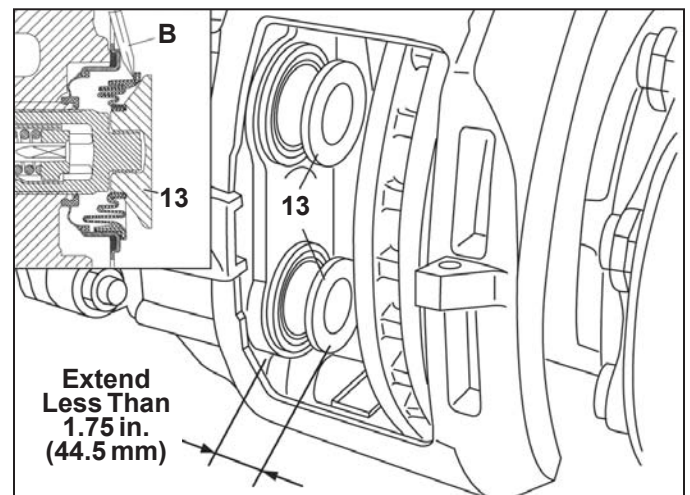
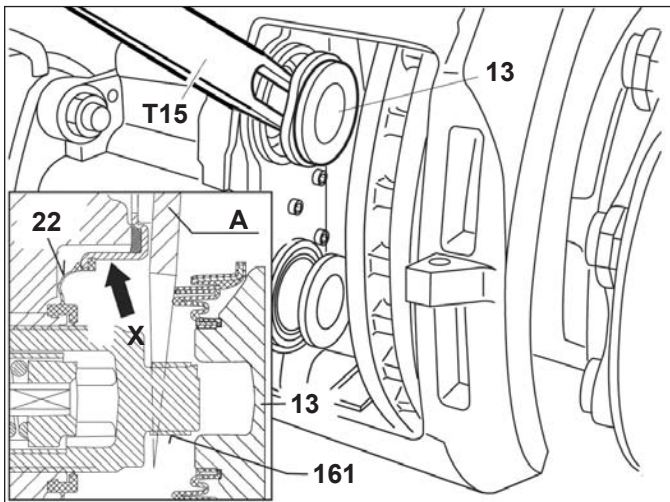
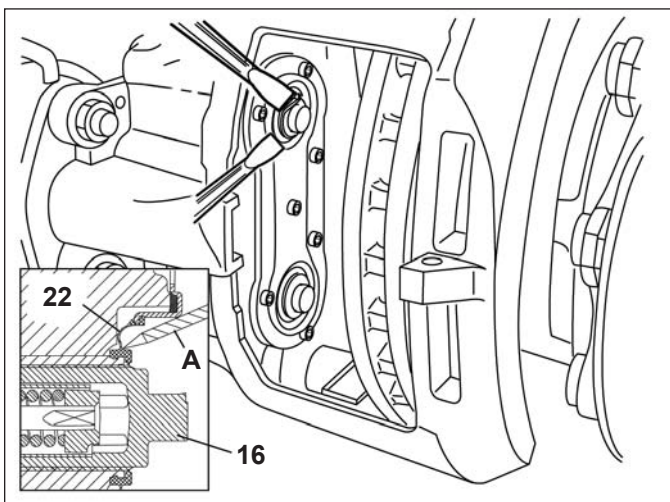

FIGURE 47 - PERMITTED TAPPET EXTENSION
FIGURE 48 - WEDGE TOOL USE
FIGURE 49 - INNER SEAL REMOVAL
CAUTION: NEVER EXTEND THE TAPPET MORE THAN 1.75 in. (44.5 mm). See Figure 47. Over-extending the tappet will result in the tappet losing engagement with the threads of the synchronizing mechanism. Since the mechanism can only be set at the manufacturing plant, the *caliper/carrier assembly must be replaced* if this happens.
5.5.5 See Figure 47. Extend the tappets — less than 1.75 in. (44.5 mm) — by turning the shear adapter (61) clockwise. A screwdriver (callout “B” in
Figure 47 inset) should be used to move the boot and allow the wedge fork (“A” in Figure 48) to be inserted. CAUTION: Do not insert the screw driver more than ¼ inch. Take care not to damage the inner sealing face (see arrow “X” in Figure 49). Gouges or grooves will prevent a good seal and will require that the caliper be replaced.
5.5.10 See Figure 49. Carefully remove the inner seal using one or two flat-blade screwdrivers as shown. Caution: Do not insert the screwdrivers so far that they come into contact with the threaded tubes. Damage to the threaded tubes would require that the brake be replaced.